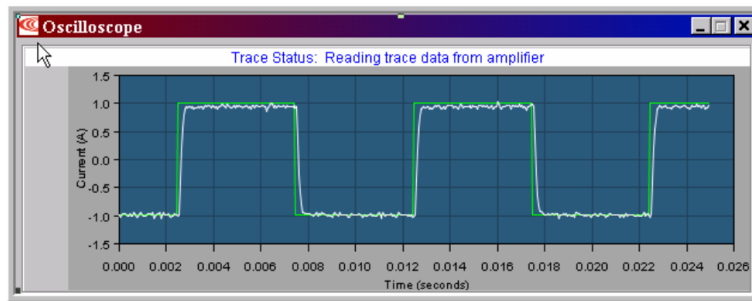

Figure 9: A plot of the reference square wave current and the actual measured current during PI current controller tuning.
2. **Tune the current control loop.** Set a limit on the integrated current to avoid overheating the motor. This limit is based on the integral  $\int I^2 dt$ , which is related to how much energy the motor coils have dissipated recently. (When this limit is exceeded, the motor current is limited to the continuous operating current until the history of currents indicates that the motor has cooled.) Also, tune the values of P and I control gains for the PI current controller. This tuning is assisted by plots of reference and actual currents as a function of time. See Figure 9. The current control loop executes at 20 kHz, which is also the PWM frequency (i.e., the PWM duty cycle is updated every cycle).